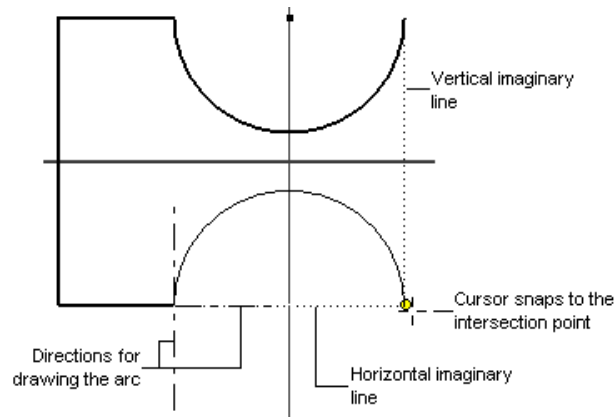

Figure 2-73 Use of the temporary tracking option to draw an arc
12. Move the cursor downward, you will notice a point where both the vertical and horizontal imaginary lines intersect each other; see Figure 2-73. This point is the endpoint of the lower arc. The cursor automatically snaps to that point. Do not release the left mouse button until the entire process is completed.
2. While using the temporary tracking option to draw lines, you do not need to press and hold the left mouse button and drag it. You just need to click once to select the endpoint of the line after you get the intersection point of the imaginary lines, refer to Figure 2-73.